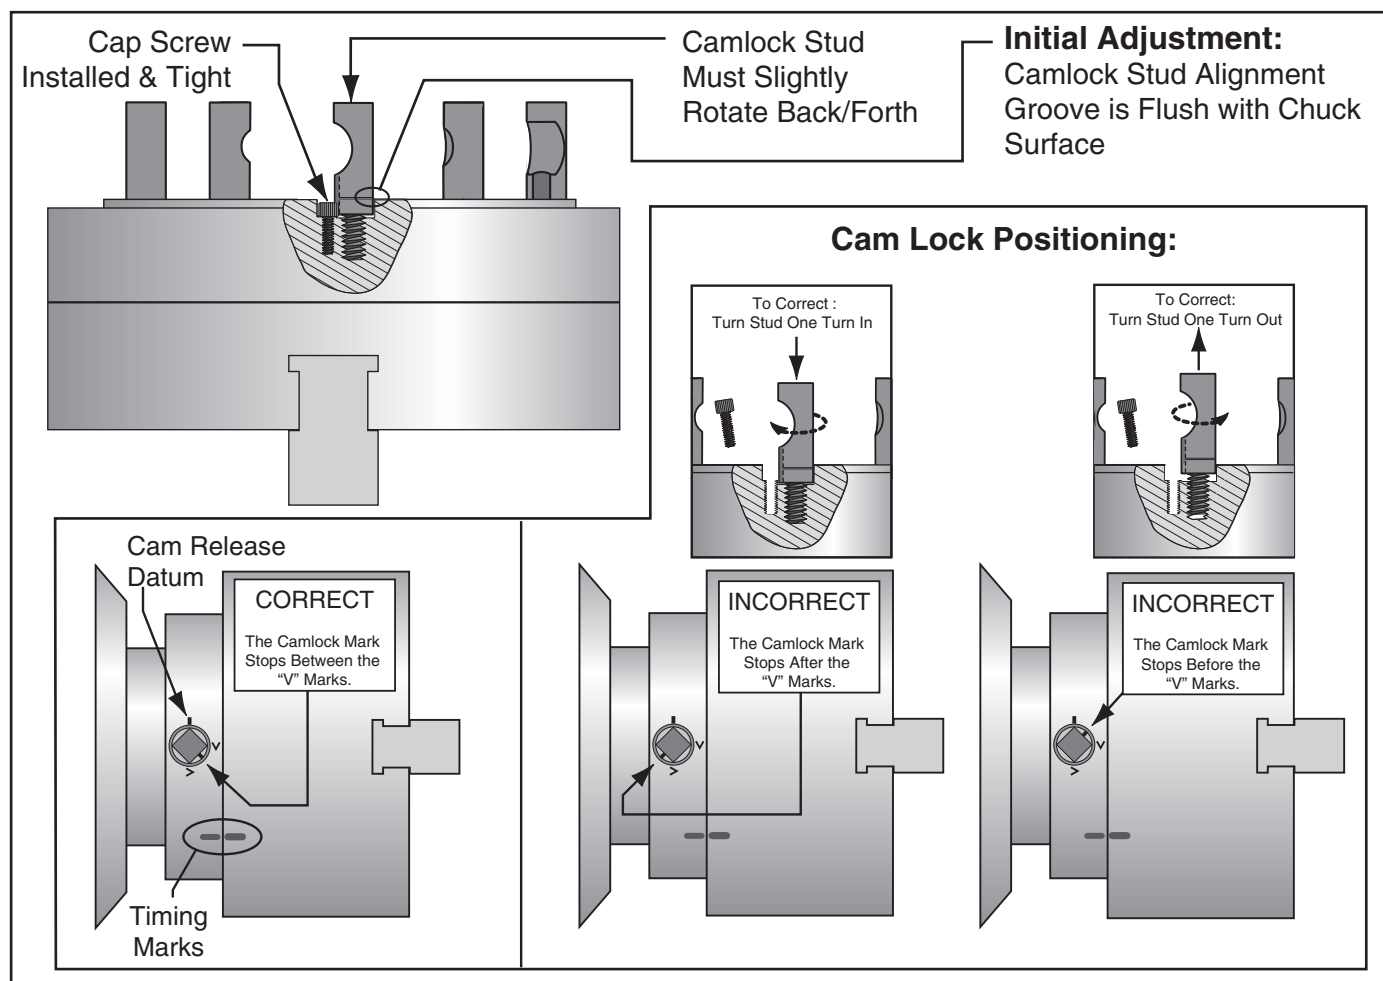

Figure 23. Camlock stud alignment.
5. Align the chuck-to-spindle timing marks (see **Figure 23**), and slide the chuck onto the spindle.
Note: If any of the cam lock marks (see **Figure 23**) do not fall between the "V" marks when the cam lock is tight, you must adjust the offending camlock stud as discussed in **Camlock Stud Installation**.
- Oil and thread each cam stud into the chuck until the alignment groove is flush with the chuck surface as shown in **Figure 23**.
—If the cam lock mark stops outside of the "V" marks, remove the chuck and adjust the cam stud height of the offending studs one full turn (see **Figure 23**).
—If the final position of each cam mark is between the two "V" marks as shown in **Figure 23**, no stud adjustment is required.